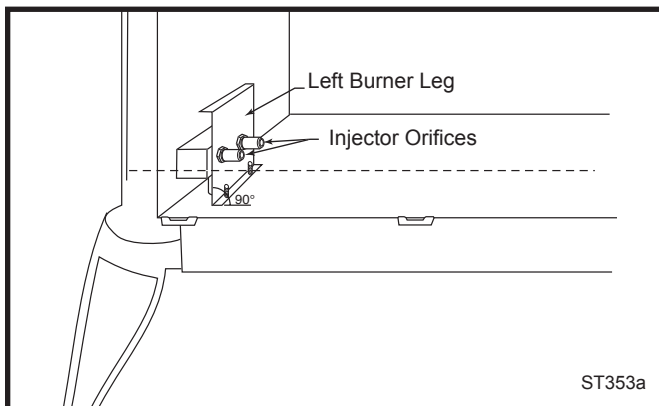

Fig. 14 Be sure injector orifices remain at 90° to the base.
4. Replace burner. Slide the burner in at an angle with left side lower than the right side. Slide the left side onto the injectors, making sure the burner leg remains at a 90° angle to the base. (Fig. 14) Lower the right hand side down in to place. Make sure the burner is as far left as possible and the injector shoulders are inside the burner.